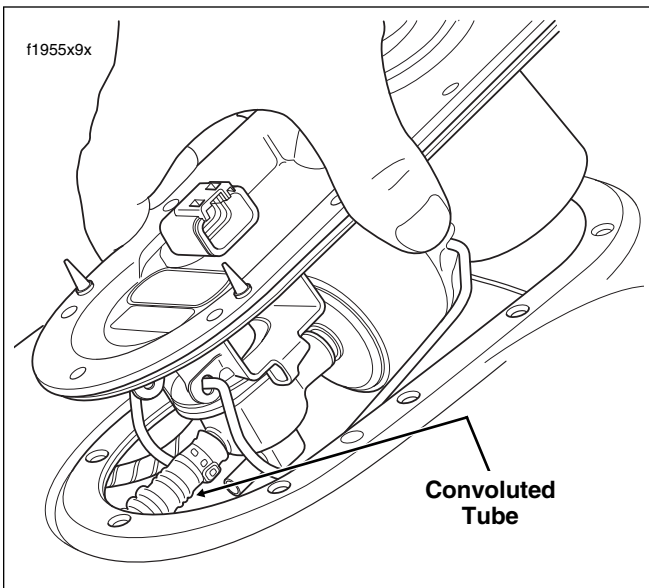

Figure 9-15. Raise Canopy and Remove Tube (FLHXI, FLHT/C/U/I, FLTRI)
12. Raise canopy slightly to access top fitting (inlet port) at back of fuel pressure regulator. Using a side cutters, cut hose clamp and remove convoluted tube. Exercise caution to avoid cutting or damaging tube or dropping pieces of cut clamp into fuel tank. See Figure 9-15.
4. Raise canopy slightly and slide **new** hose clamp onto free end of convoluted tube. Install tube onto top fitting (inlet port) at back of fuel pressure regulator. Crimp clamp. See Figure 9-15.